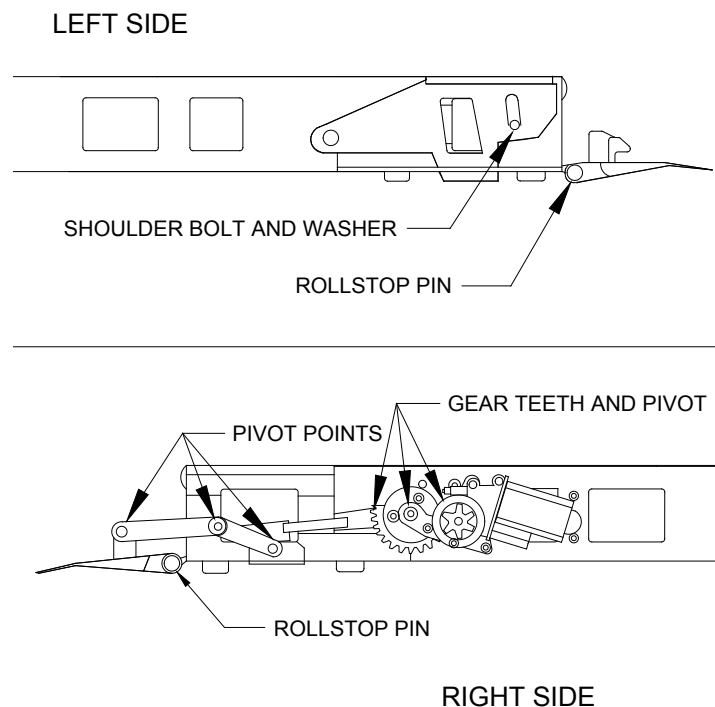

FIGURE 4-4: ROLLSTOP LUBRICATION POINTS
- 5) Refer to **Figure 4-4**. Lubricate Rollstop pivot points and gears (both sides of platform) using light grease (ZEP PLS, p/n 497C, Curtisol[®] Red Grease P/N 88167, or equivalent). Wipe off excess grease.